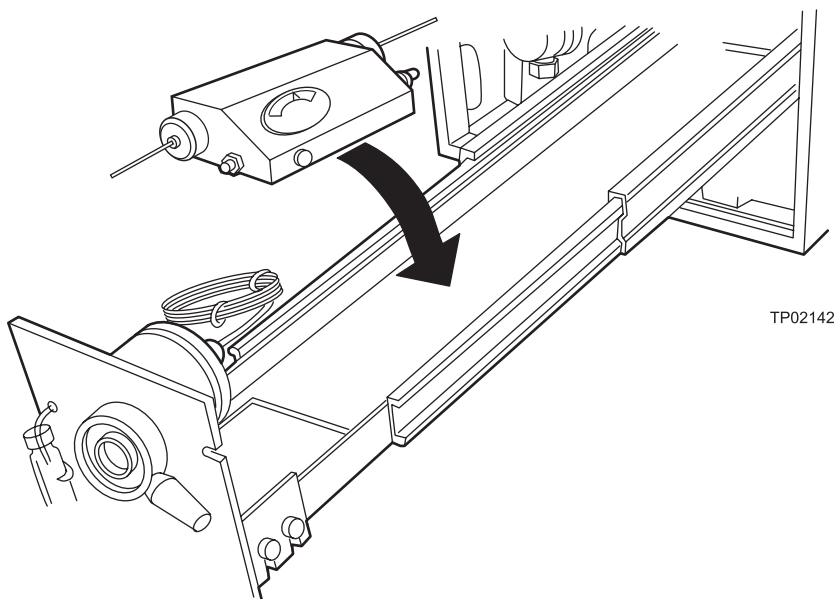

Figure 2-15 RCM 8 x 10 Orientation
2. Place the RCM 8 x 10 in the drawer with the cartridge outlet tubing pointing toward the front of the pump drawer (Figure 2-15). Allow the RCM 8 x 10 to lie flat in the drawer.
3. Attach the inlet tubing and outlet tubing to the cartridge as follows (see Figure 2-15).